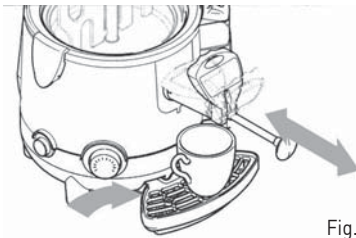

Fig. 12
- If the product is especially thick, it is advisable to keep the rod pulled out at the maximum position; any clogging in the dispensing line may be removed by sliding the rod back and forth while keeping the machine, as shown in the Fig.12